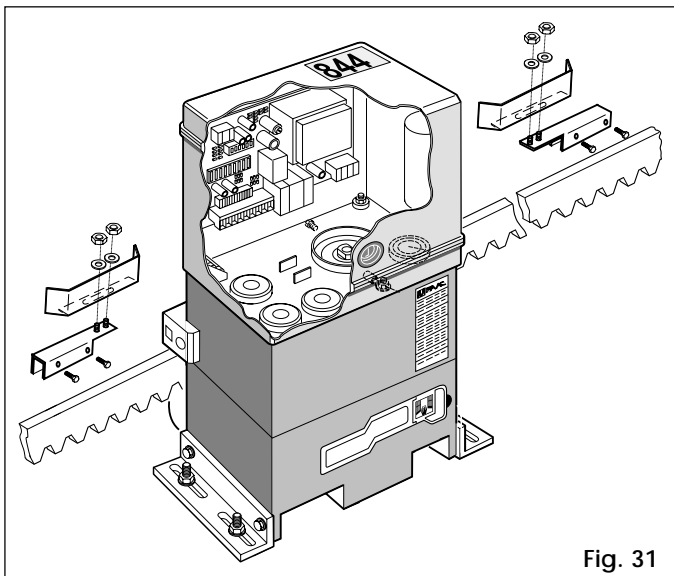

Fig. 31
- 2) Assemble the limit switch, positioning the stop plate centrally relative to the threaded studs of the bracket (Fig.31).